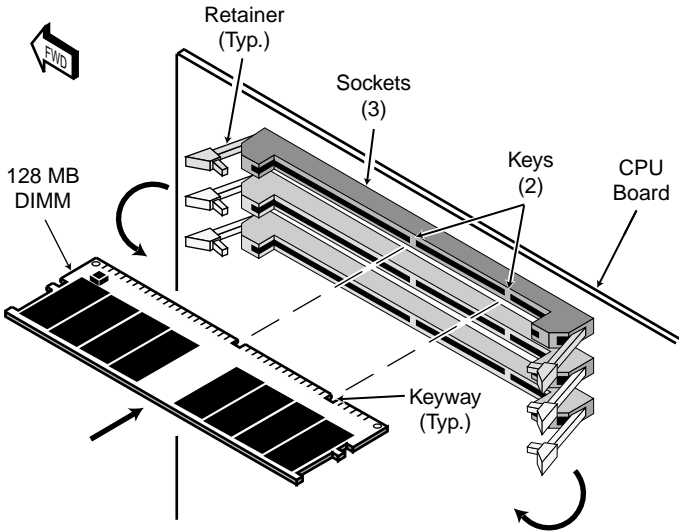

Figure 5-4. DIMM Installation
- [] 1. Refer to Figure 5-4. Carefully remove your new, or additional, DIMM from its anti-static packing.